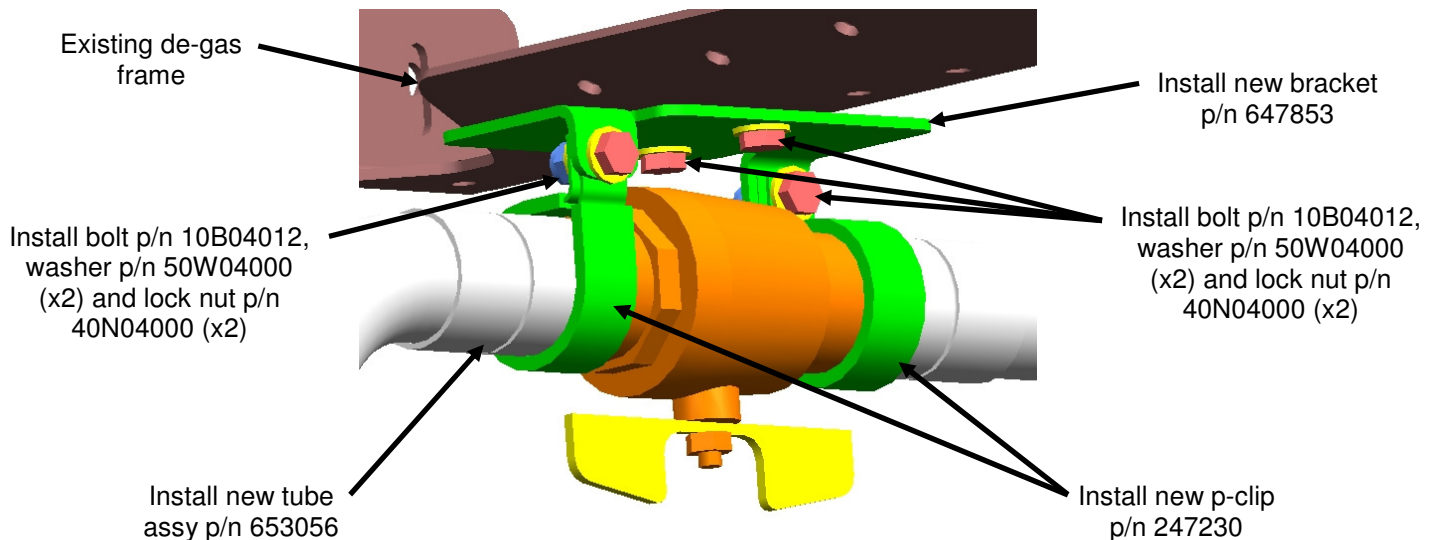

Figure 4: Tube Assembly Installation
13. Using the newly drilled hole from Step 12 and the same mounting slot as the removed tube clamp from Step 6 install the new tube support bracket p/n 647853 to the de-gas support bracket using new bolts p/n 10B04012 (x2), washers p/n 50W04000 (x4) and lock nuts p/n 40N04000 (x2), torque hardware to 12 ft*lbs dry. See Figure 4.
14. Loosely install the new tube assy p/n 653056 to the newly installed bracket from Step 13 using p-clips p/n 247230 (x2), washer p/n 50W04000 (x4) and lock nuts p/n 40N04000 (x2). See Figure 4.